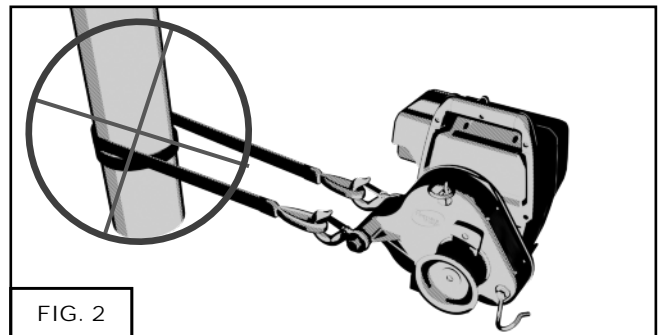

FIG. 2
Even better, the double bowline knot (fig. 2) allows you to maintain approx. 75% of the line's capacity.
WHEN YOU INSTALL THE SLING TO ANCHOR THE WINCH, AVOID A FULL TURN AROUND AN ANCHORING POINT (FIG. 2 BELOW). THIS WILL PREVENT THE WINCH FROM ALIGNING ITSELF WITH THE LOAD CORRECTLY.
- 3) Fig. 2: Stop the winch before the knots reach the winch because the latter will not be able to pass through and will cause the entanglement of the line.